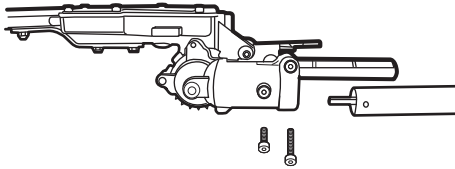

Fig. 10a
1. Loosen the two bolts (C3) on the joint and then align the hole of the hedge trimmer shaft (C6). (See Fig. 10a)